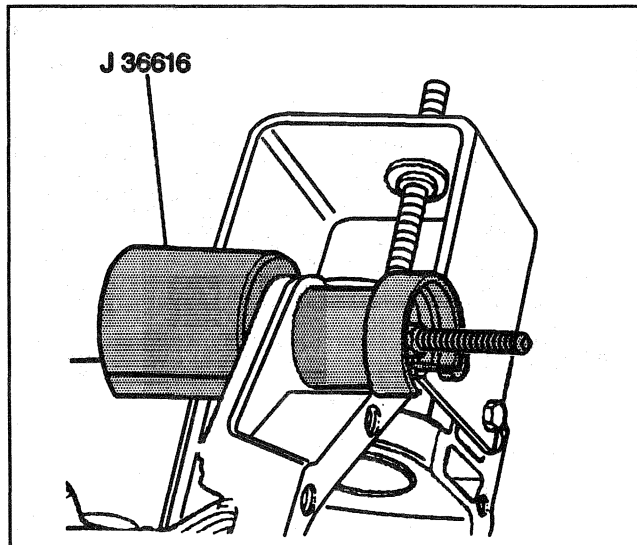

Figure 23—Removing the Carrier Bushings
41. Bushings. Use J 36616 (Figures 23 and 24).